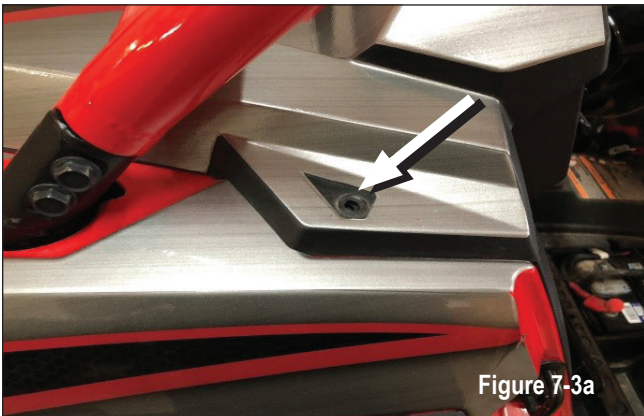

Figure 7-3a
Remove (2) T40 screws located by the A-pillars as shown in Figure 7-3a. Next, remove the (2) T40 screws holding the front of the dash in the inner fender near the water bottle and bus bar. Lift upwards to release the top of the dash cover and remove as shown in Figure 7-3b.